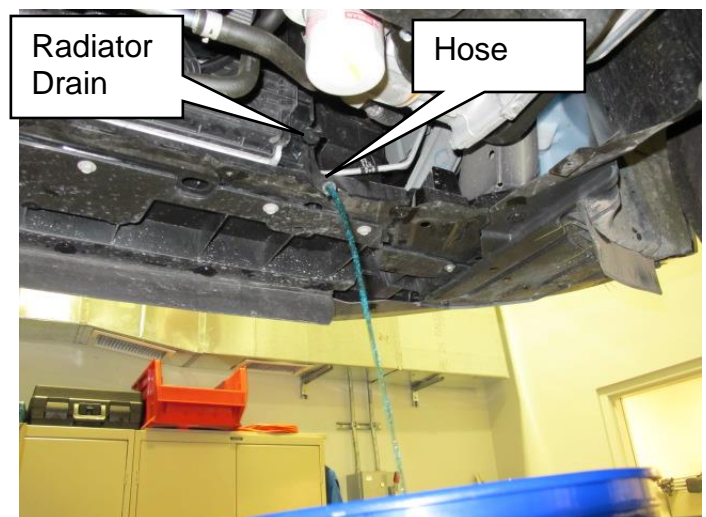

Figure 6
11. Partially drain the coolant from the radiator into a suitable clean drain pan (Refer to Figure 6).